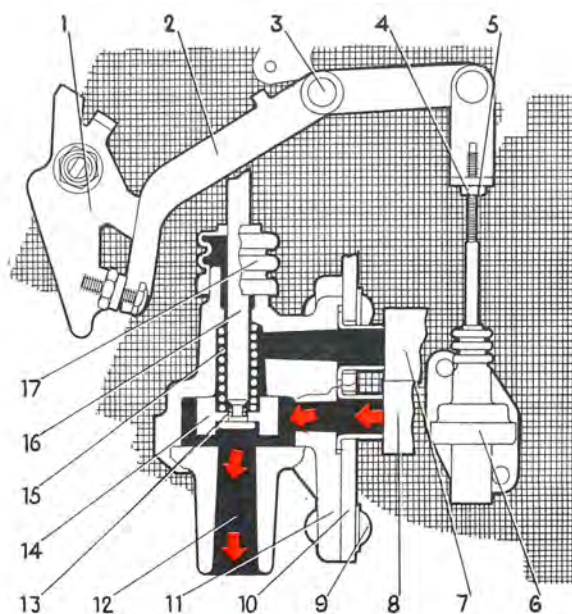

Fig. 2-65. Hot start valve, function, idling
When the throttle is at idling position, the lever (1), Fig. 2-65, presses against the valve control (2). The piston (14) is thereby lifted to its upper position by the control rod (16). The connection between the floatchamber and air cleaner is closed and fuel fumes are led directly out into the atmosphere through the outlet (12). When the accelerator pedal is depressed (See Fig. 2-66), the lever (1) releases the valve control (2) and the piston (14) is pressed by the spring (15) against its lower position. The outlet (12) is shut off, the fuel fumes are led into the air cleaner, and when the engine starts running, further through the carburetor and into the engine combustion chambers.